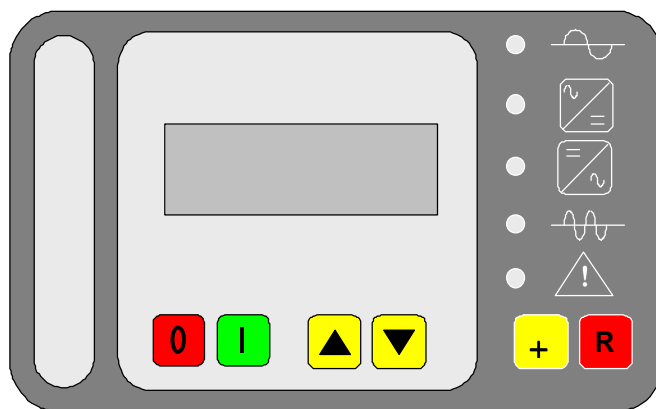

Figure 11
There is a local Control Panel on the cubicle door of the 400 Hz GPU (Figure 11) which contains a mimic display with multi-aspect light emitting diode (LED) indications, an 80-character liquid crystal (LC) display, on/off buttons, reset and lamp test buttons, and a visual load display.